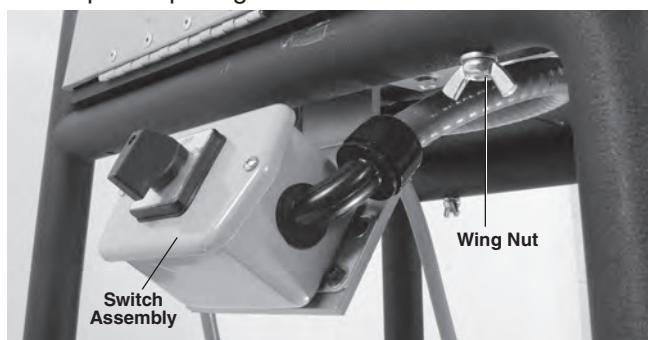

Figure 5 – Mounting Roll Groover to Stand
4. Mount the roll groover/base assembly to the stand using four (4) $\frac{3}{8}$ " – 16 x 2½" hex screws, washers and wing nuts (*Figure 5*). Carefully place the switch assembly under the stand rail. Movement of the stand legs may be required to align the base assembly.